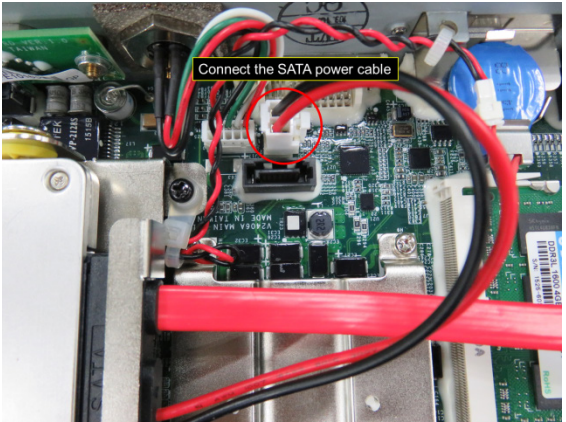

Figure 26
- 4.3.5 Connect the free end of the SATA power cable to the mainboard as shown in Figure 26.